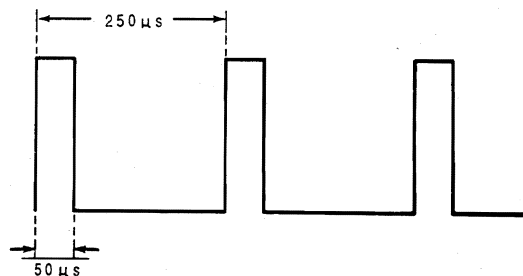

Figure 6-7
8. (spectrum) Figure 6-7 shows a typical periodic waveform. The period of the waveform is given as \_\_\_\_\_ microseconds.
9. (250) Therefore, the frequency of this waveform is \_\_\_\_\_ Hz.